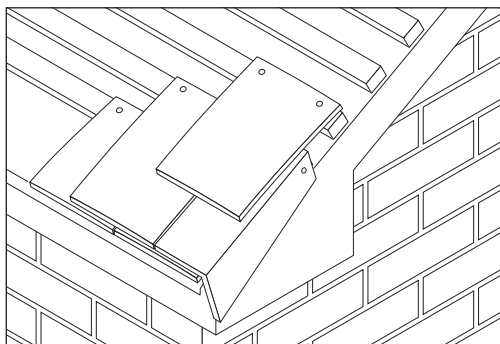

Fig 4 Standard tile used to break bond
- 5 Each alternate course should contain a normal plain tile to break bond, which should be twice nailed using standard 38mm x 2.65mm aluminium or stainless steel nails (Fig. 4).